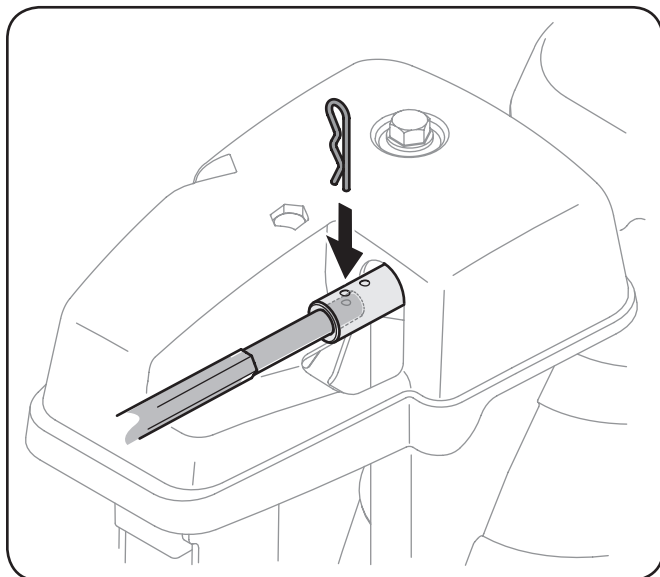

Figure 6-6
2. Pull out the chute control rod until the hole in it lines up with the second hole in the chute rotation assembly. See Figure 6-6.
3. Reinsert the cotter pin through this hole and the chute control rod. See Figure 6-6.